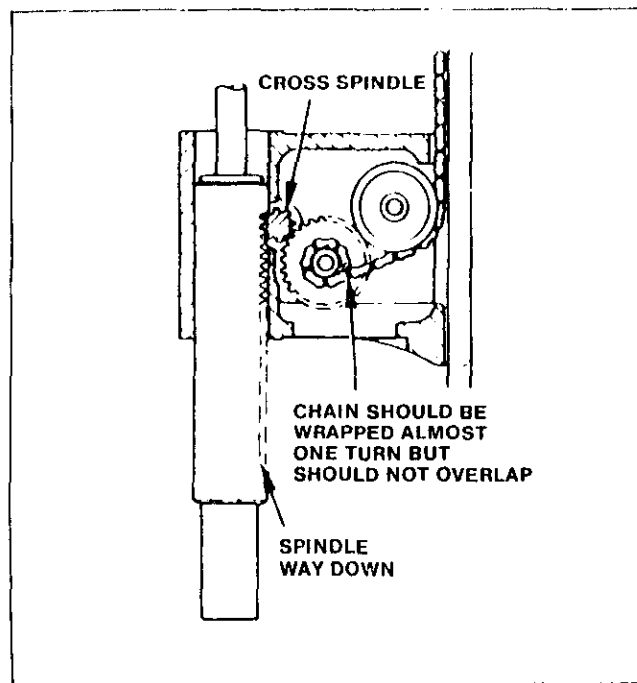

Figure M-3. Chain Position
CROSS SPINDLE AND SPINDLE REMOVAL (Figures M-3 and M-4)
6. Remove the sheet steel cover from the underside of the sliding head and note the position of the chain on the chain gear so that this can be placed in the same position at reassembly (see Figure M-3).
4. Try moving the spindle by hand. There should be little or no movement down since the spindle should be at its lower limit of travel. Movement up should be difficult because with the counterweight blocked, it is necessary to lift the weight of the spindle and sleeve. Remove the blocking and try the spindle through its full travel. The chain should be wrapped on the hub of the chain gear almost a full turn (but not overlapping) (see Figure M-3) when the spindle is down and tangent to the hub when the spindle is up.